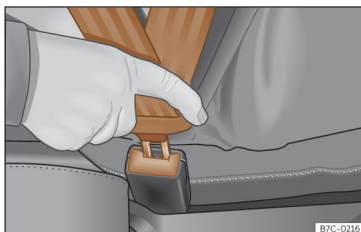

Fig. 21 Insert the latch plate of the seat belt into the buckle.
- Insert the buckle plate in the buckle of the correct seat >>> **Fig. 21.**